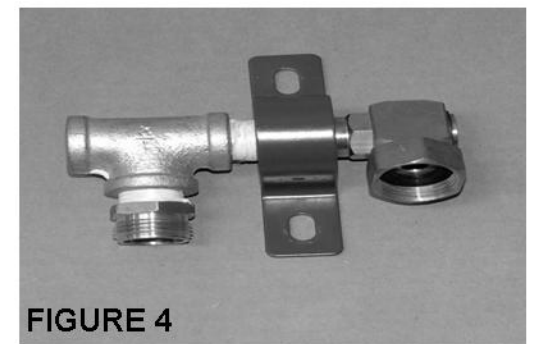

FIGURE 4
4. Insert the Brass Swivel (G) through the U-bushing (I) and screw the end of the swivel into the galvanized tee (H). **See Figure 4.** Using a wrench, tighten the swivel into the galvanized tee. Tighten securely but do not over tighten. Over tightening the swivel could cause leakage.